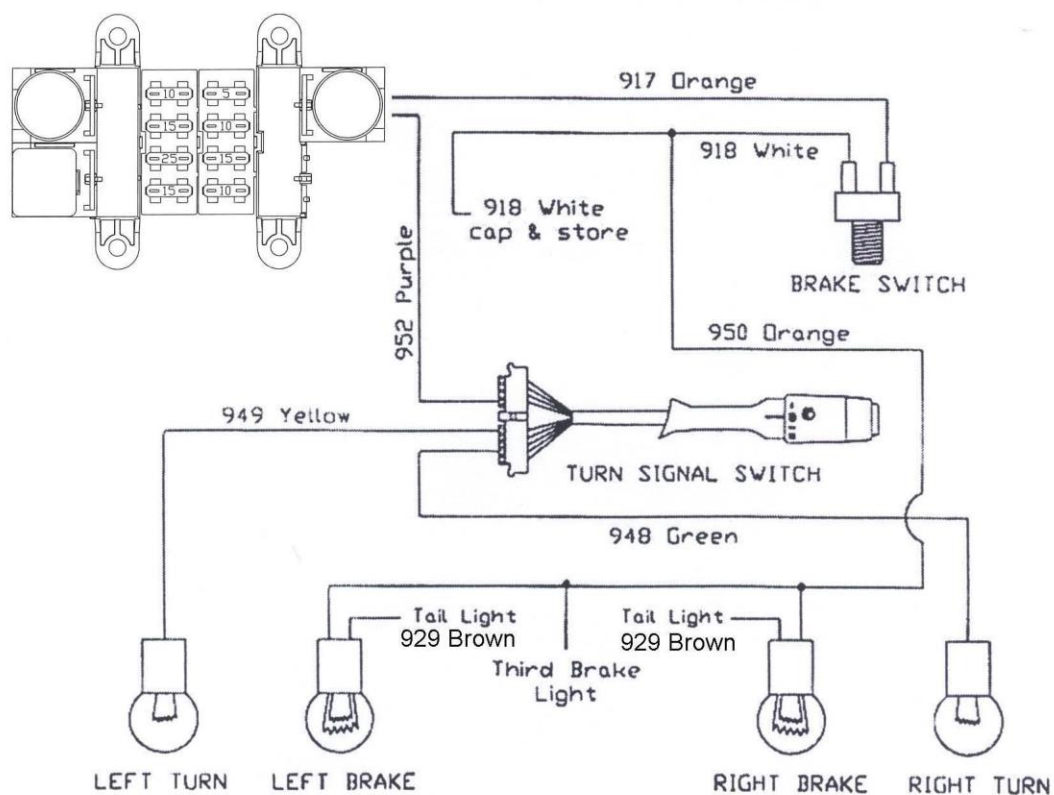

Figure 10-7 Integrated Brake Lights & Separate Turn/Brake Lights
- 10.8.2** These 4 wires will be connected according to one of the diagrams shown in **Figure 10-7**. Which diagram you will use depends on whether or not you have one bulb on each side of the vehicle that is for the brake/tail **and** Turn Signal Lights (this is referred to as integrated lights) **or** you have more than one bulb on each side **and** the Brake and Turn Signal Lights are two different bulbs (referred to as separate Brake/Turn Lights).